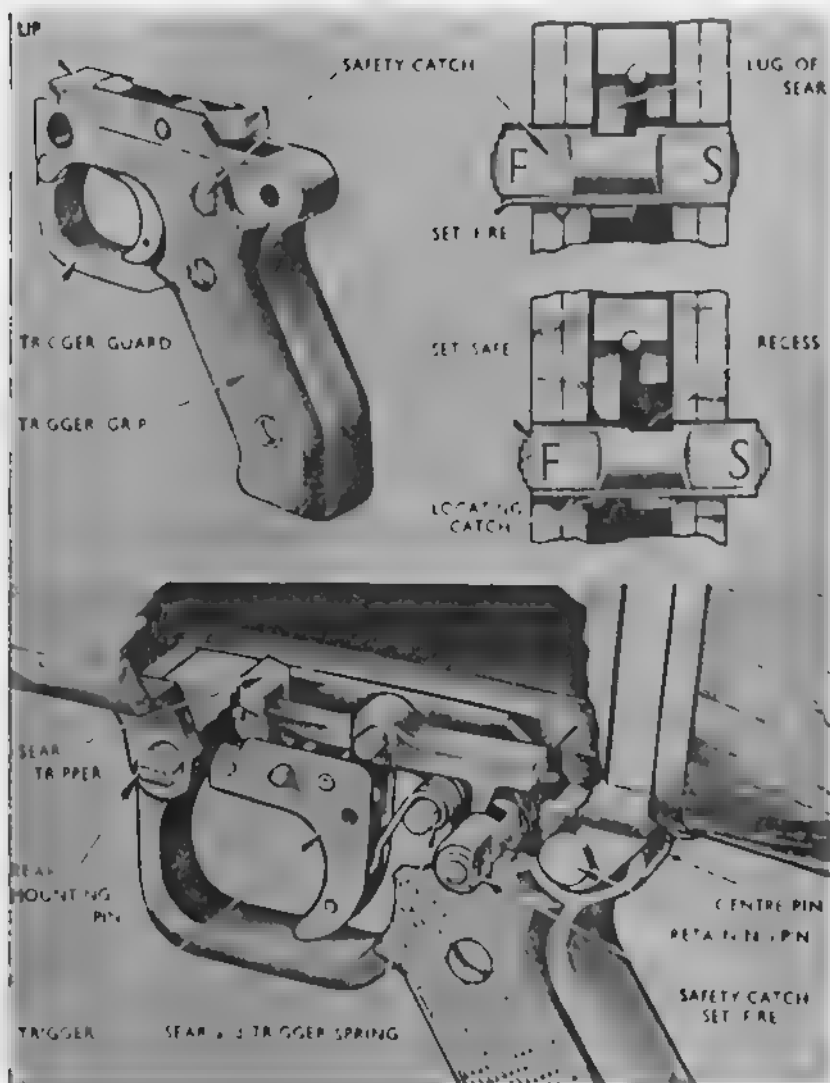

Fig. 6.—The trigger assembly
a. To strip: (see Fig. 6.)
(1) Remove the rear mounting pin, if fitted.
(2) With the working parts forward, remove the retaining pin from the rear of the trigger group by pushing out the centre pin from one side and the retaining pin from the other.
(3) Remove the trigger group by pivoting the group slightly downward.